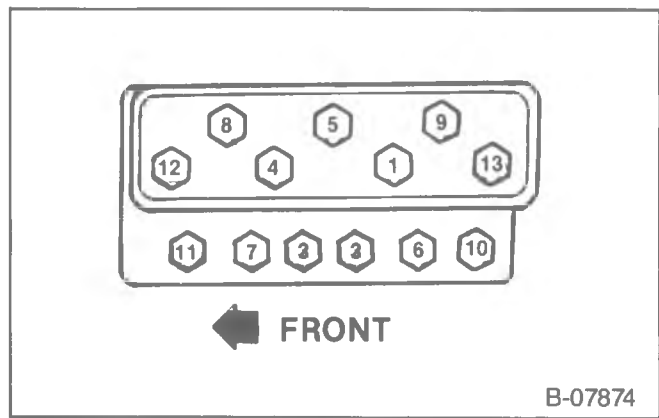

Figure 15—Cylinder Head Bolt Tightening Sequence
Install or Connect (Figure 15)
- Cylinder head bolts, a little at a time, using the sequence shown in figure 15. Proper torque is 90 N·m (65 ft. lbs.).